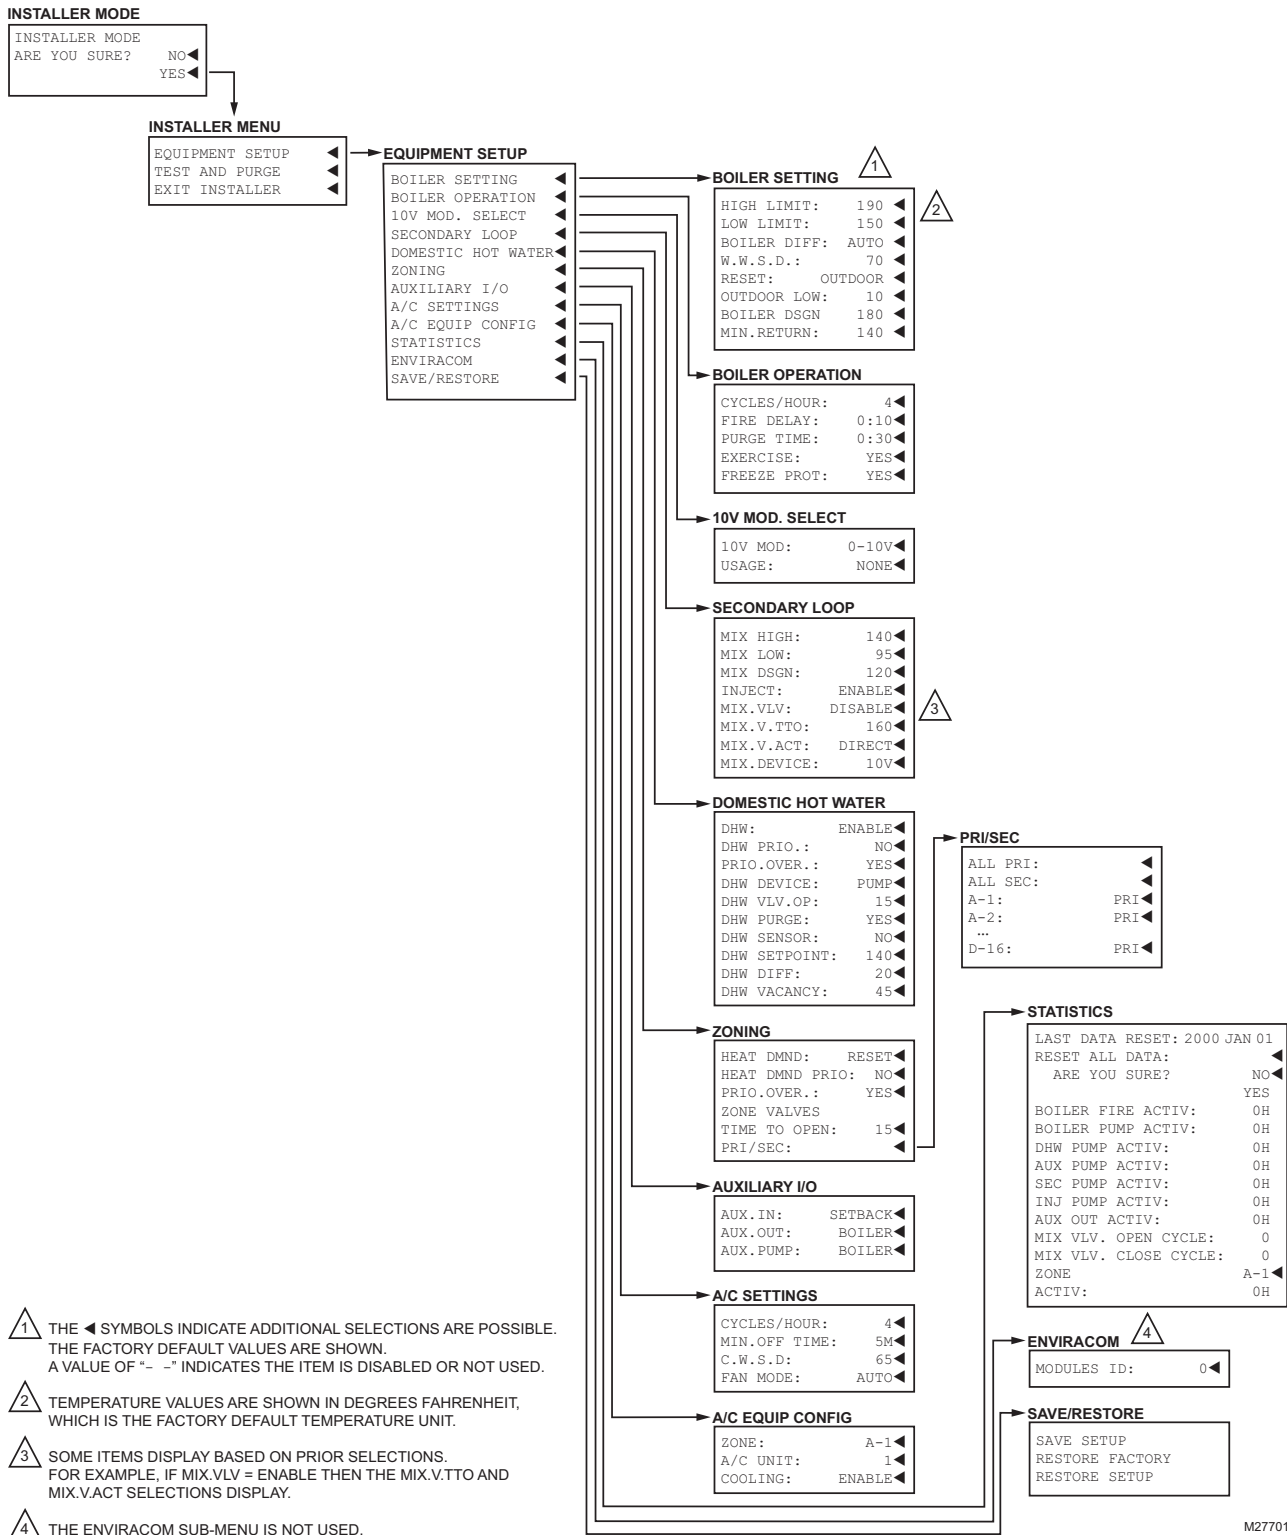
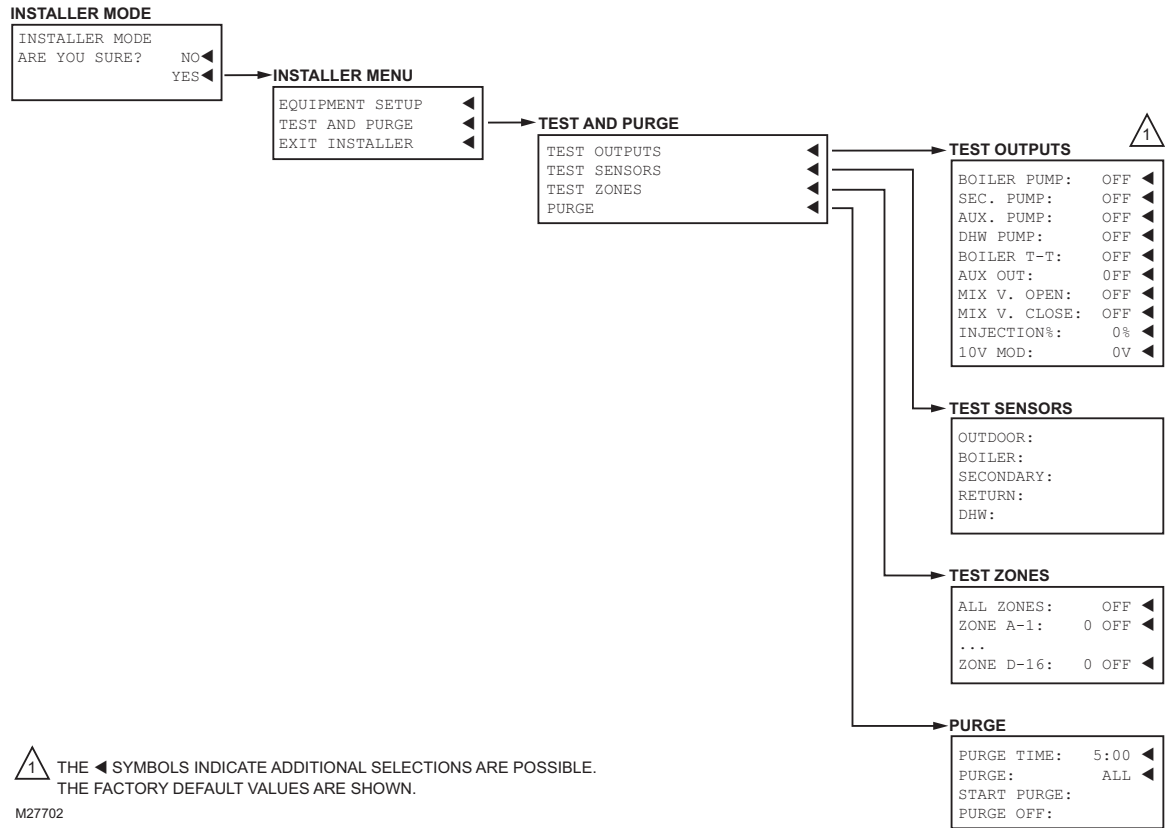

Fig. 25. Installer Menu Structure. – Equipment Setup.
Fig. 26. Installer Menu Structure. – Test and Purge.
- Installer Menu (see Fig. 25 on page 44)
To display the Installer Menu, go to the Home Page, press and hold the OK button for 3 seconds until the message INSTALLER MODE – ARE YOU SURE? displays. Select YES and press the OK button. Fig. 25 and Fig. 26 illustrate all possible Installer Menu selections.